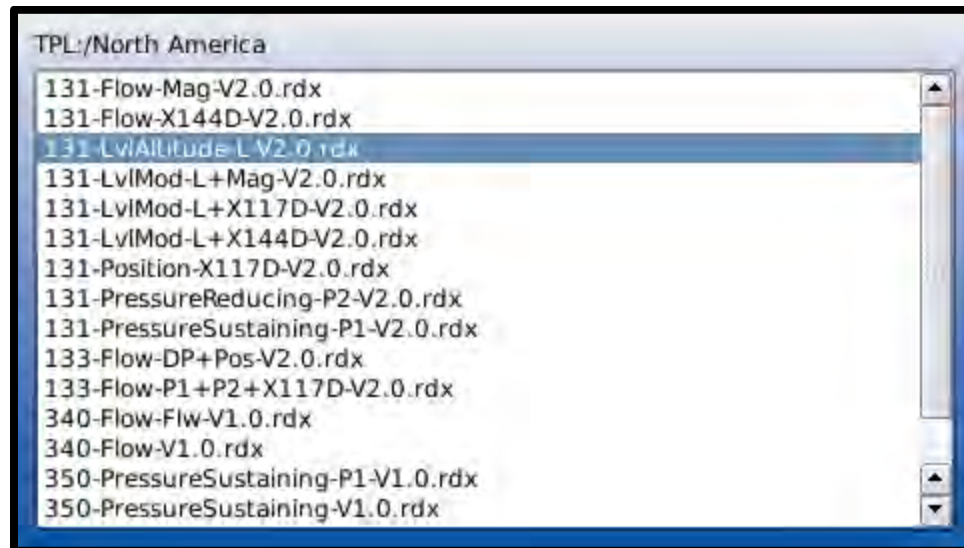

Figure 5.3
- b. Highlight the desired ValvApp (131-LvlAltitude-L-V2.0 used for example) and press “OK” as shown in **FIGURE 5.3**.